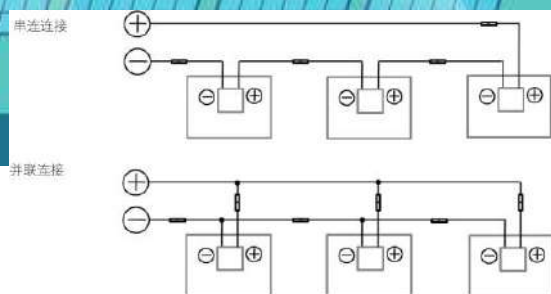

Figure 1
11.2.5 Secure the module in each mounting location with an M8 bolt and a flat washer, spring washer and nut as shown in Figure 1 and tighten to a torque of 16~20 N.m(140-180lb.in.).